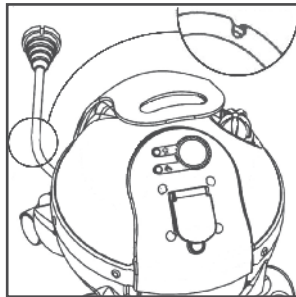

FIG. 4
- always check that mains cord and plug are in good condition before use (Fig. 4);